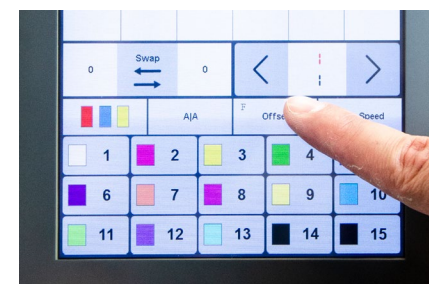

Figure 92
- Select the “Offset” key. **See Figure 92.**